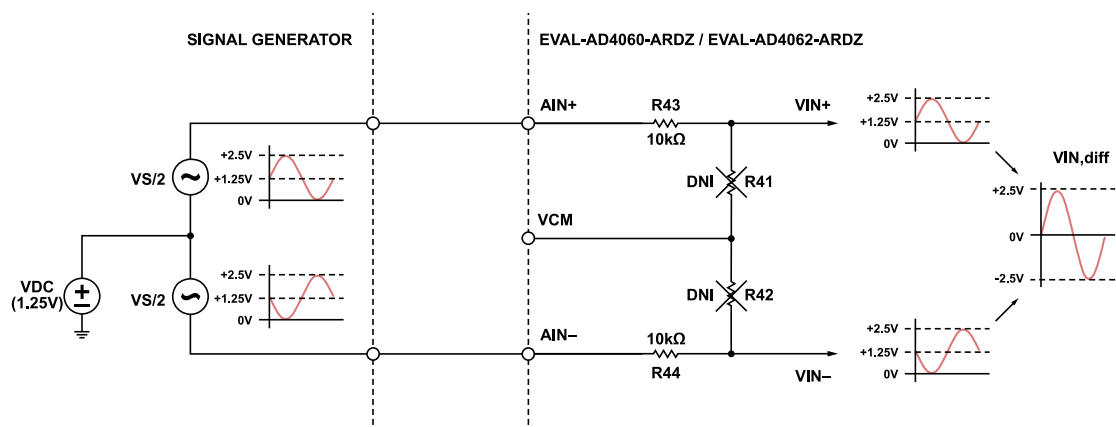

Figure 15. Biased Differential Signal Generator Example
- For signal generators with differential outputs that provide their own DC offset, the VCM input can be left disconnected. In the factory default configuration, the R41 and R42 resistors that are used with the VCM input will attenuate the differential input signal by half. It is recommended to disconnect R41 and R42 when using these types of signal generators, as shown in Figure 15. VIN,diff is 2.5V peak or 5V p-p, and VCM is 1.25V DC.